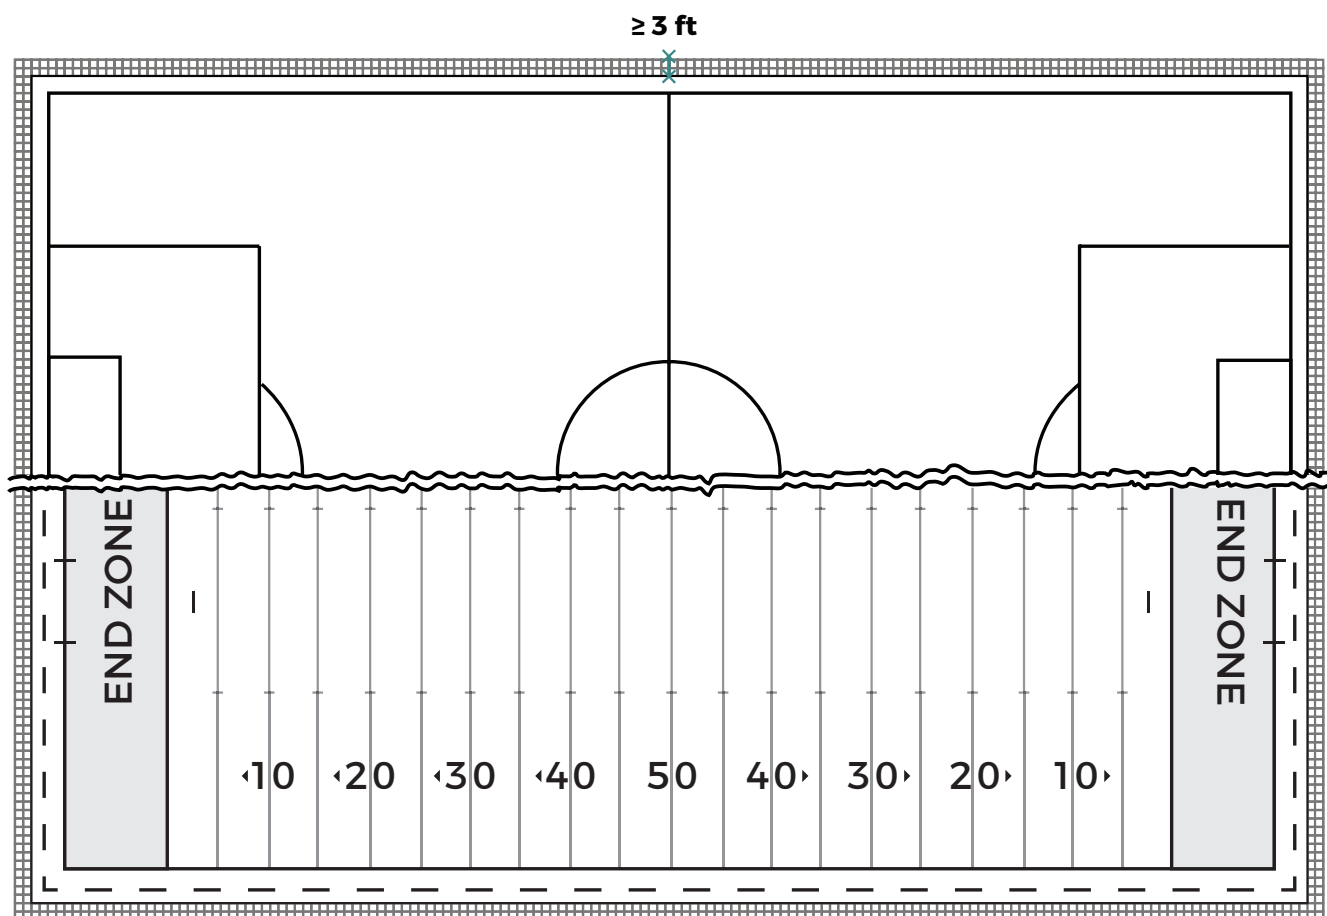

Figure 1 = Bird's eye view of pitch with paving stones all around the field perimeter (min. 3 ft wide)
- Consider making a paved / tiled surface all around the field, where excess infill material can be swept up and poured back onto the field (cf. Figure 1).